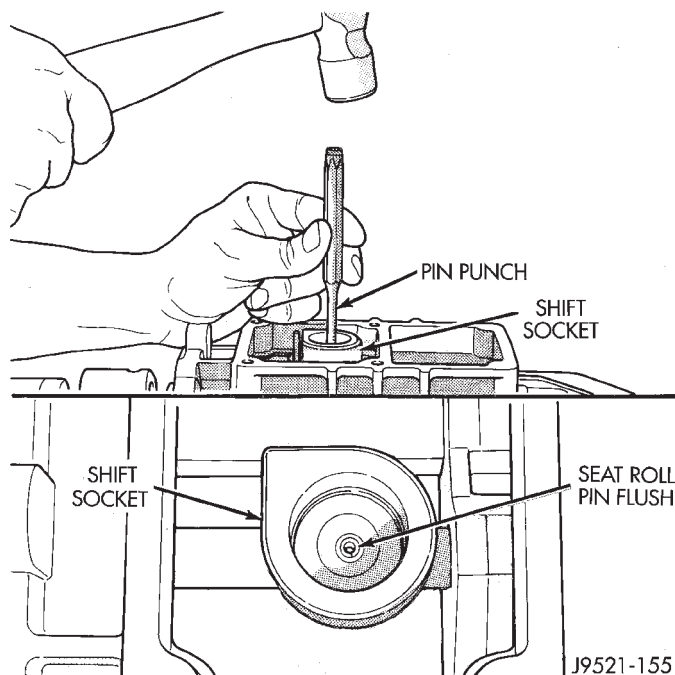

Fig. 113 Seating Shift Socket Roll Pin
(14) Seat roll pin in shift socket with pin punch. Roll pin must be flush with socket after installation (Fig. 113).